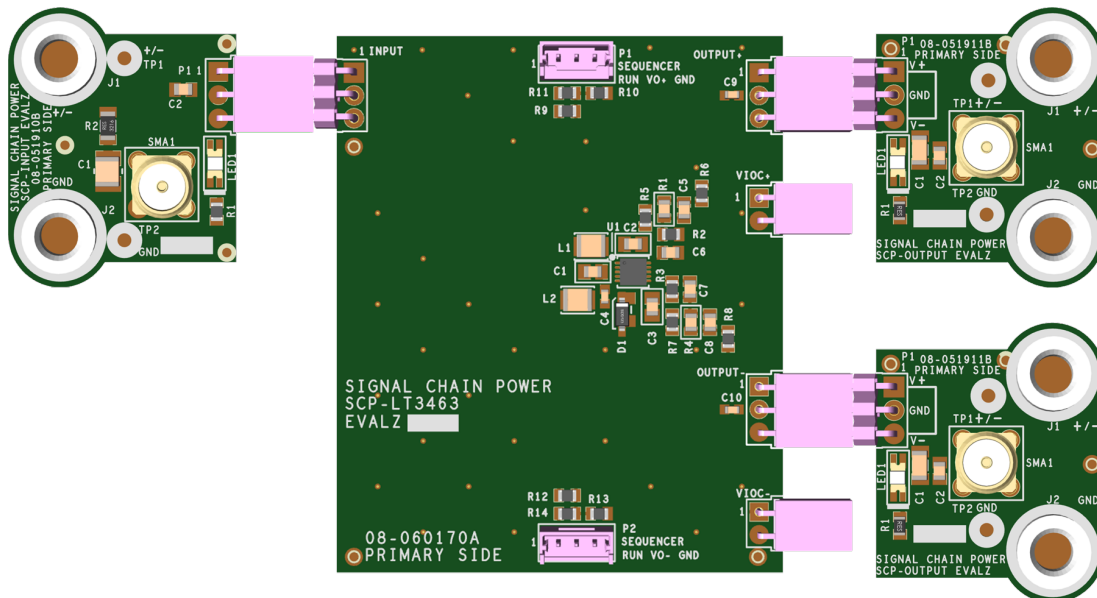

Figure 2. Proper Measurement Equipment Setup (Use SMA connectors for Measuring Input or Output Ripple)
2. Connect the SCP-INPUT-EVALZ and SCP-OUTPUT-EVALZ boards to the SCP-LT3463-EVALZ (refer to Figure 2) and connect the input board to a voltage source, V_{SOURCE} . Connect the output board to a voltmeter or dynamic load. Slowly raise the input voltage until the SCP-LT3463-EVALZ powers up into regulation and sweep V_{SOURCE} through the desired range of operation.